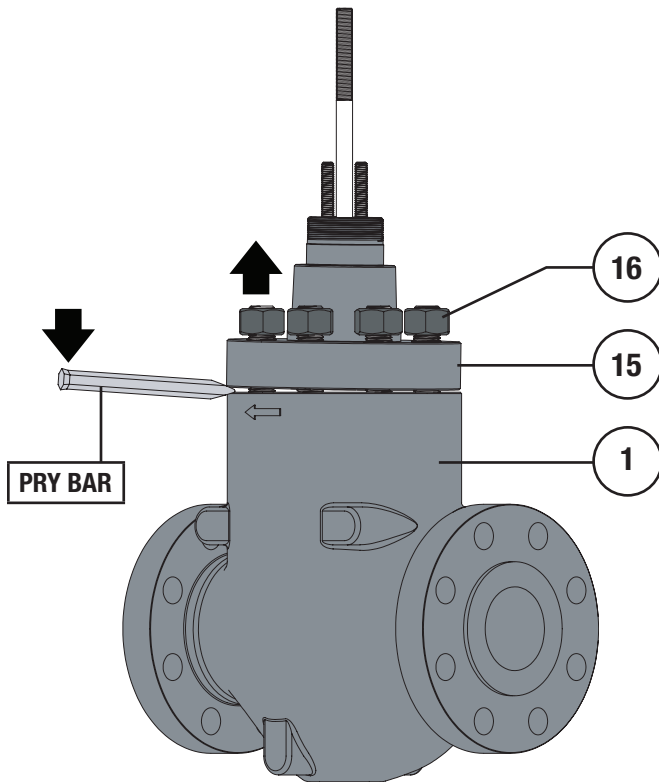

Figure 8 Bonnet Removal (Steps 1 & 2)
- 1** Loosen the bonnet nuts (Key 16) 1 full turn after contact between the nuts and the top surface of the bonnet (Key 15) has been broken. Do not remove the bonnet nuts until any trapped process pressure has been vented. Refer to Figure 8.
- 2** Break the contact between the valve body (Key 1) and the bonnet (Key 15), use a pry bar or blunt chisel to help with the separation if necessary. Refer to Figure 8.